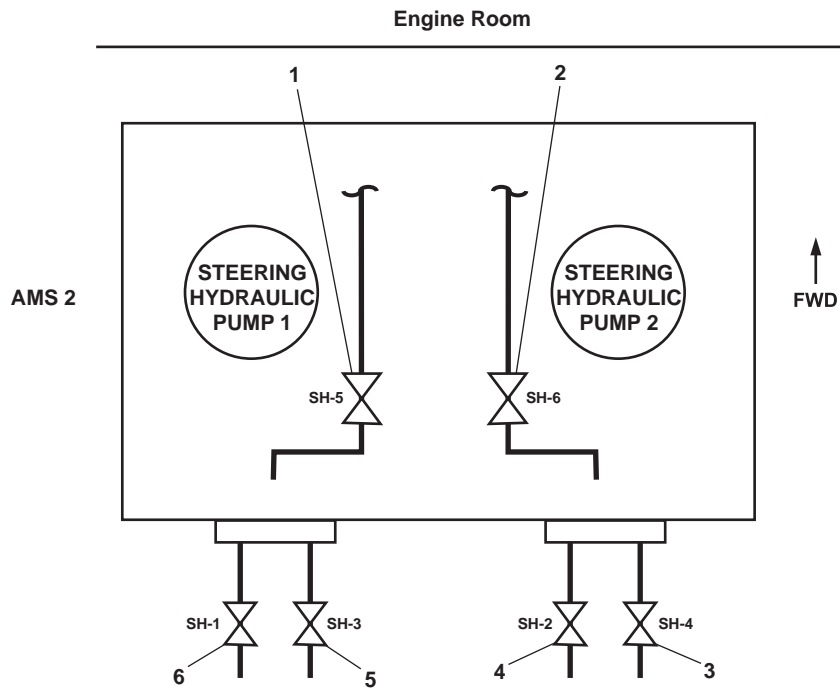

Figure 2. Steering Hydraulic Pump Station
- a. SH-5, RUD. MOT NO. 1 SUMP (figure 2, item 1)
- b. SH-6, RUD. MOT No. 2 SUMP (figure 2, item 2)
- c. SH-4, C.O.V. -RUD. MOT. No.2 PRESS / RTN (figure 2, item 3)
- d. SH-2, C.O.V. -RUD MOT. No.2 PRESS / RTN (figure 2, item 4)
- e. SH-3, C.O.V. -RUD. MOT. No. 1 PRESS / RTN (figure 2, item 5)
- f. SH-1, C.O.V. -RUD. MOT. No. 1 PRESS / RTN (figure 2, item 6)